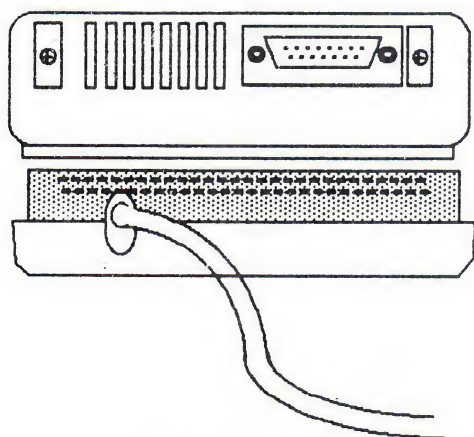

FIGURE 3
5. Pull up on the back of the cover until it clears the cable as shown in Figure 3. Slide cover back and away from the drive.